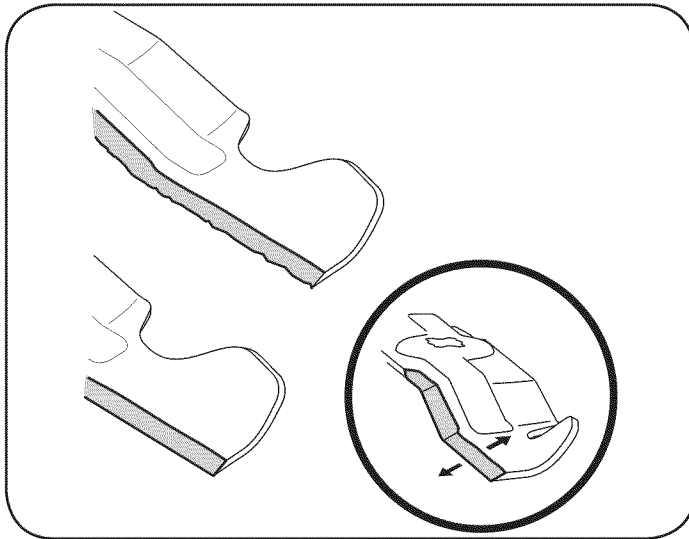

Figure 18
- To properly sharpen the cutting blades, remove equal amounts of metal from both ends of the blades along the cutting edges, parallel to the trailing edge, at a 25°- 30° angle. Always grind each cutting blade edge equally to maintain proper blade balance. See Figure 18.